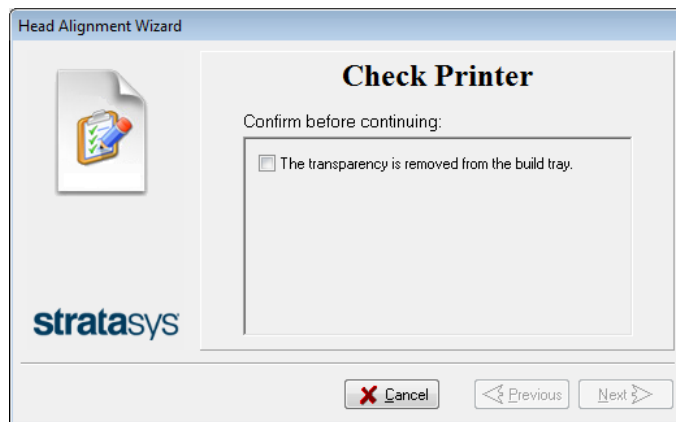

Figure 4-65 Head Alignment wizard—steps 8–10
10. In the wizard screen shown in Figure 4-65, select the *Transparency removed* check box, and click **Next**.